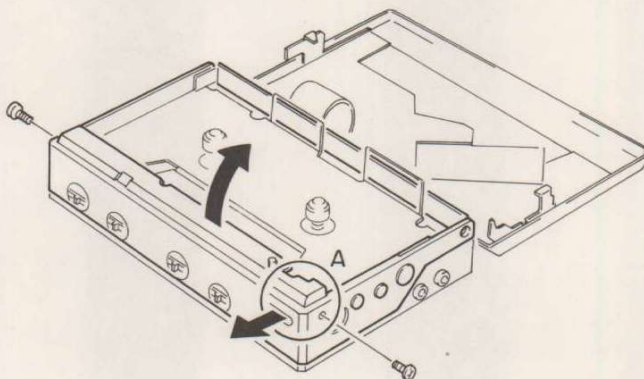

Fig. 5
- 3) Remove 2 screws, and while pulling section A of the operation panel, remove the panel in the direction of the arrow. (See Figure 5)